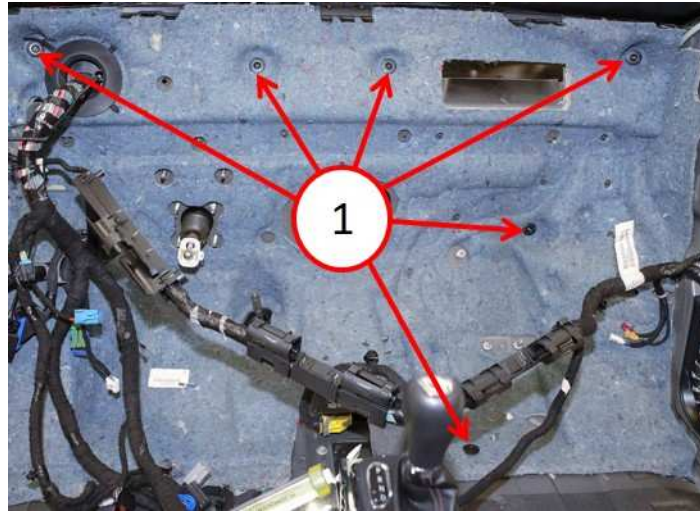

Fig. 9
16. Remove the seven fasteners (Fig. 9) holding the insulator to the vehicle .
19. Install the seven fasteners (Fig. 9) to the insulator on the vehicle.